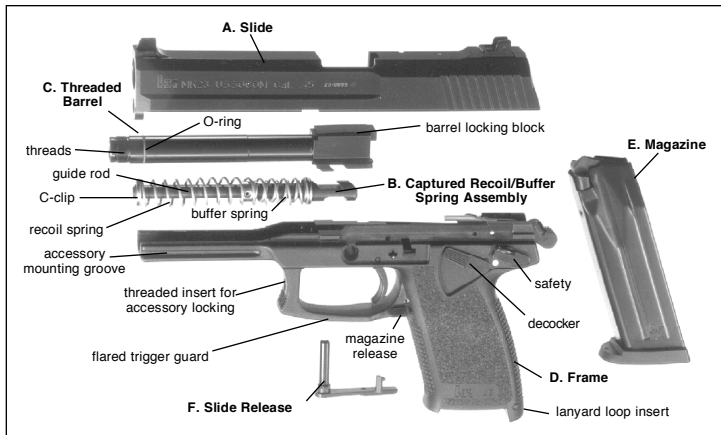

Figure 3 Major Assembly Groups
**1.4 Major Assembly Groups** (See Figure 3)